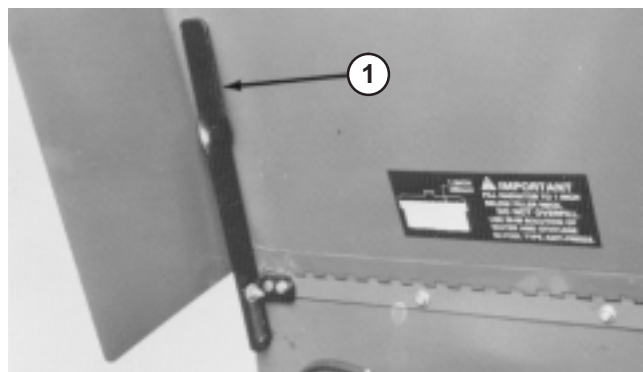

Figure 12
3. Slide bottom of hood prop out of retaining bracket (Fig. 12). Lower hood prop, pivot upward, then downward to prop up hood.